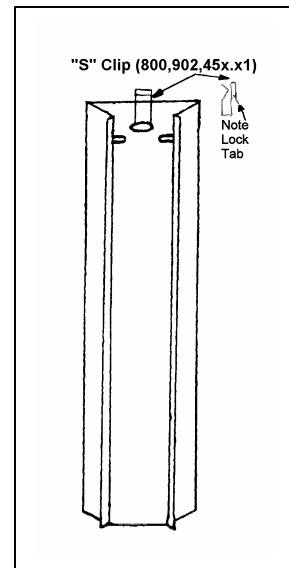

Figure 6
7. Install rear bottle neck guide on rear spacer with "S" clip at the top. (See figure 6, page 2)